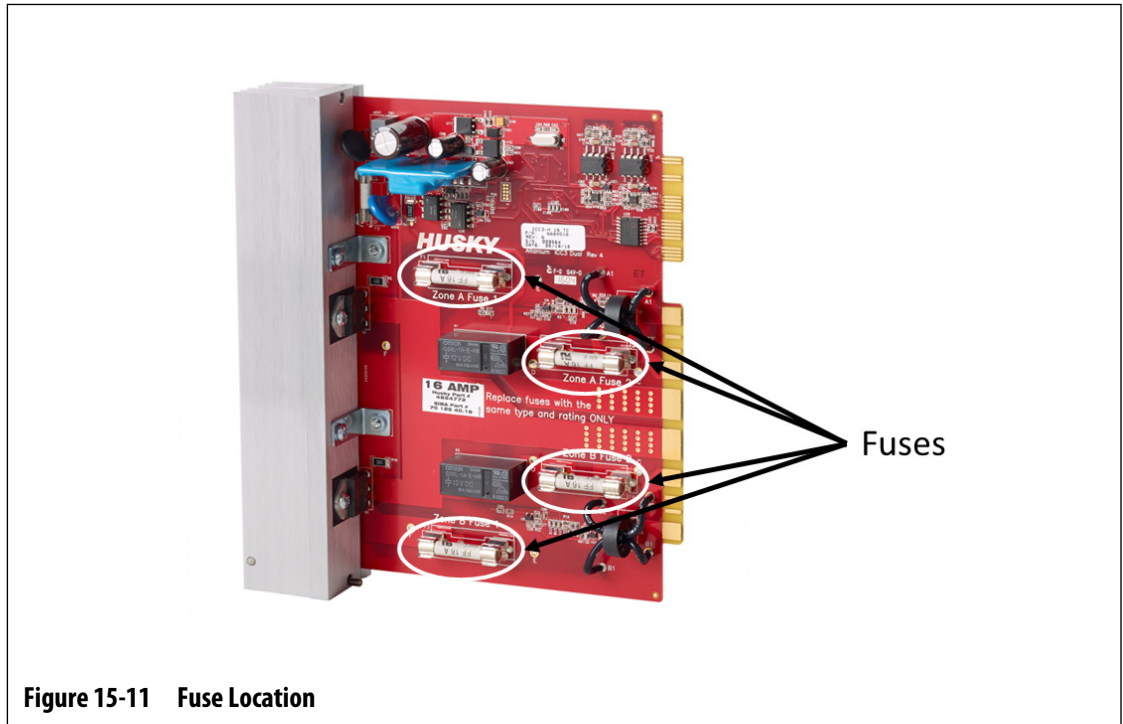

Figure 15-11 Fuse Location
7. Remove and replace the faulty fuse with one of identical type and rating. Refer to Figure 15-11.